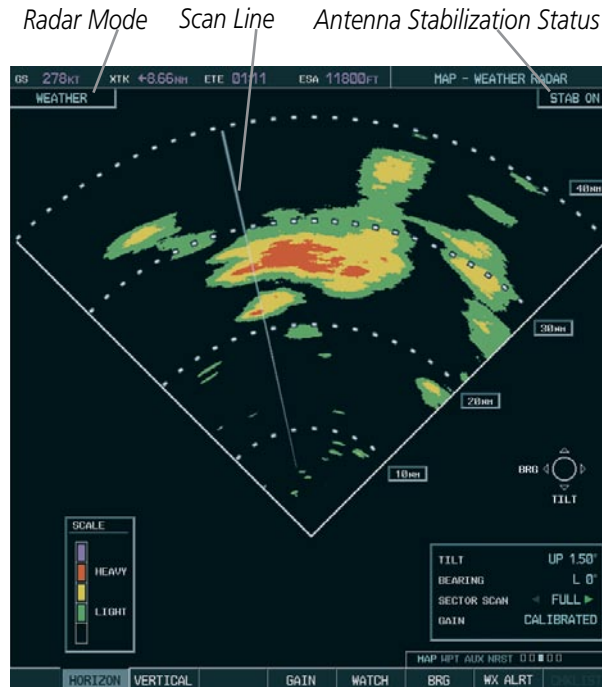

Figure 6-53 Horizontal Scan Display
- 5) The horizontal scan is initially displayed (Figure 6-53). If desired, select the **VERTICAL** Softkey to change to vertical scanning.